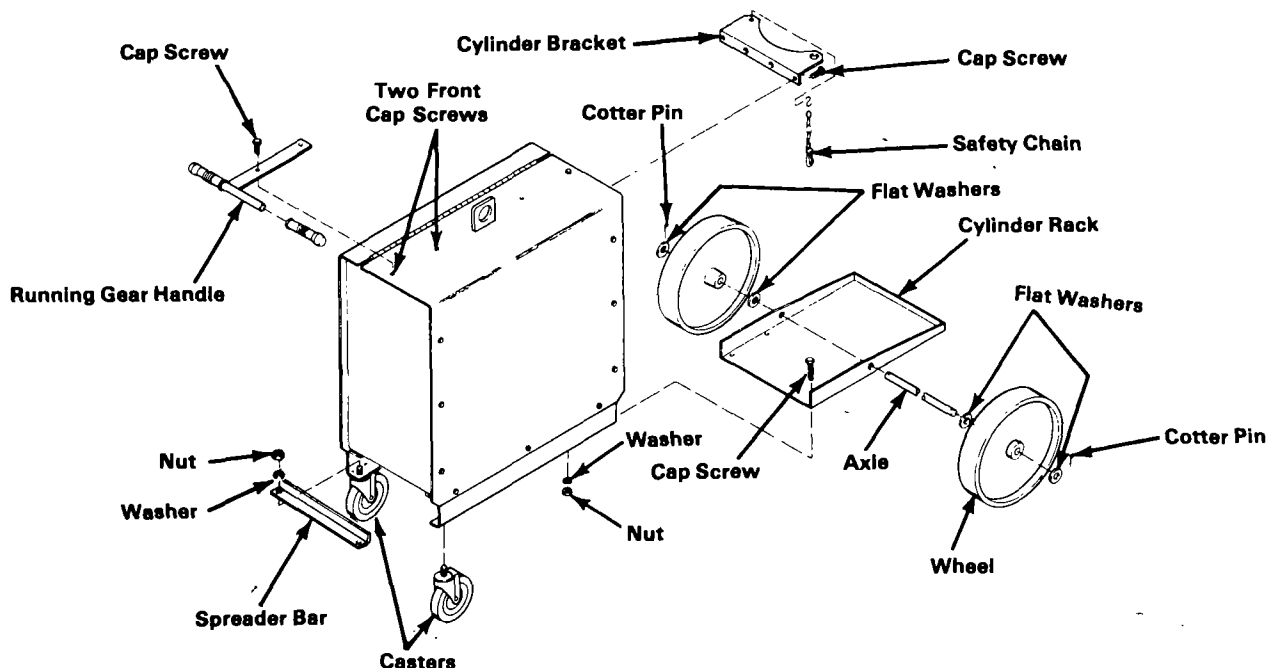

Figure 3-2. Installation Of Running Gear
3 - 1. INSTALLATION OF THE WELDING POWER SOURCE ON RUNNING GEAR (Figure 3-2)
1. Install the two 4 inch (102 mm) casters and the spreader bar on the front corners of the welding power source base as shown in Figure 3-2 using 3/8 in. hardware.
4. Install cylinder rack on welding power source base using 5/16-18 x 3/4 cap screws and associated hardware (see Figure 3-2).
5. Remove the two front cap screws in top of welding power source wrapper and discard. Install running gear handle to wrapper using 1/4-20 x 3/4 cap screws as shown in Figure 3-2.
6. Install cylinder bracket to rear panel of welding power source as shown in Figure 3-2 using 1/4-20 x 3/4 cap screws and existing holes in rear panel.